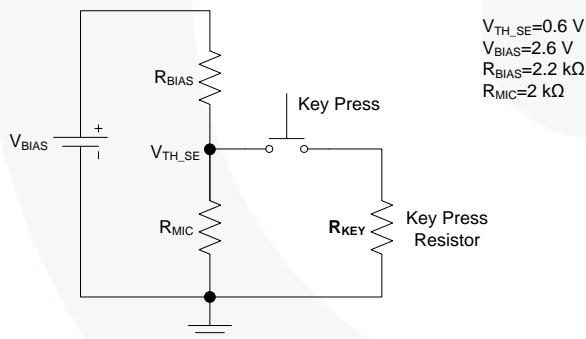

Figure 6. Example Key-Press Resistor Calculations and Values
The headset key-press comparator threshold is a function of the MIC bias voltage, MIC bias resistor, and the MIC impedance. All of these variables must be considered when calculating the key-press resistor value. Figure 6 is an example of how to calculate the key-press resistor value.
- Refer to Figure 6 and  $R_{KEY}$  calculation.